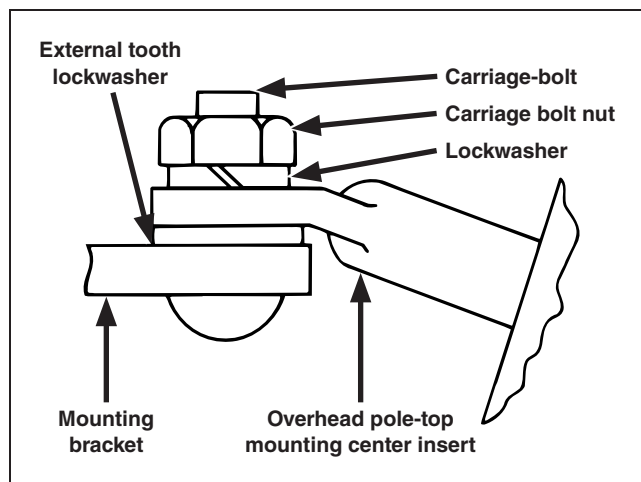

Figure 7. Attaching an overhead pole-top style VacuFuse II interrupter cutout mounting to the mounting bracket.
- STEP 1.** Attach the VacuFuse II interrupter cutout mounting to a suitable mounting bracket, as illustrated in Figure 7. Tighten the carriage bolt nut until snug but loose enough to permit pivot adjustment. Note the placement of the external-tooth lockwasher between the mounting bracket and the center insert of the mounting.